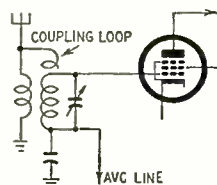

Fig. 1—Coupling loop circuit couples antenna to converter grid coil.
b. *Leaky coupling loop.* This wire loop is used in many small and old-model receivers to couple the rf and oscillator, or antenna and converter grid coil (Fig. 1). The insulation sometimes absorbs moisture and makes these wire loops a hard-to-locate source of low gain or intermittent trouble.